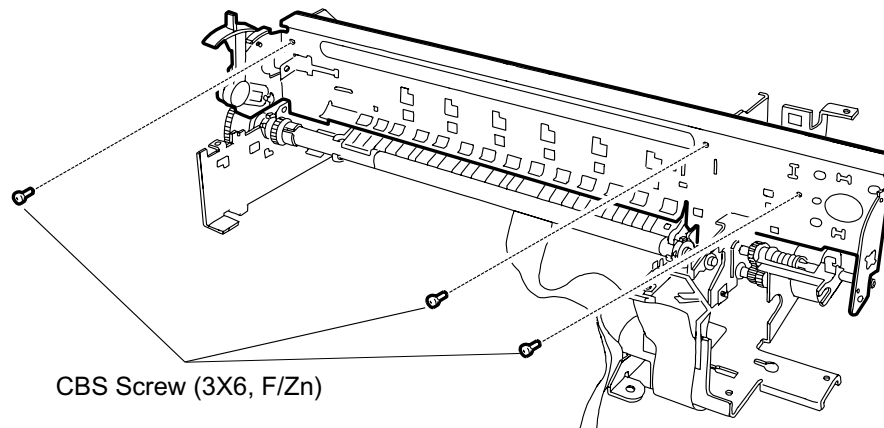

Figure 3-53. Removing the Screws Securing the Top Frame
5. Remove 3 screws (CBS, 3x6, F/Zn) securing the top frame to the printer mechanism, and 1 screw CBS, 3x6, F/Zn) securing the top frame and cap assembly. (See Figure 3-53.)